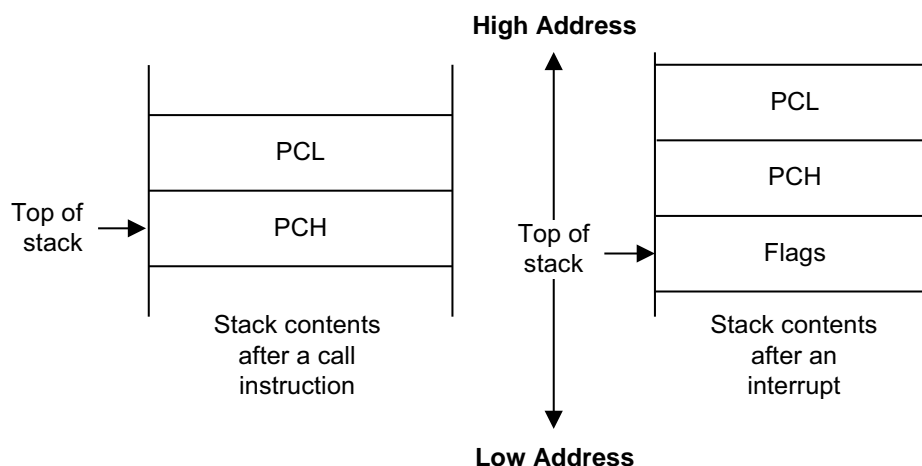

Figure 27. Stack Operations
Return addresses for procedure calls, interrupts and data are stored on the stack. The contents of the PC are saved to stack by a CALL instruction and restored by the RET instruction. When an interrupt occurs, the contents of the PC and the Flags registers are pushed to the stack. The IRET instruction then pops these values back to their original locations. The stack address value is always decreased by one before a push operation and increased by one after a pop operation. The Stack Pointer (SP) always points to the stack frame stored on the top of the stack, as shown in Figure 27.